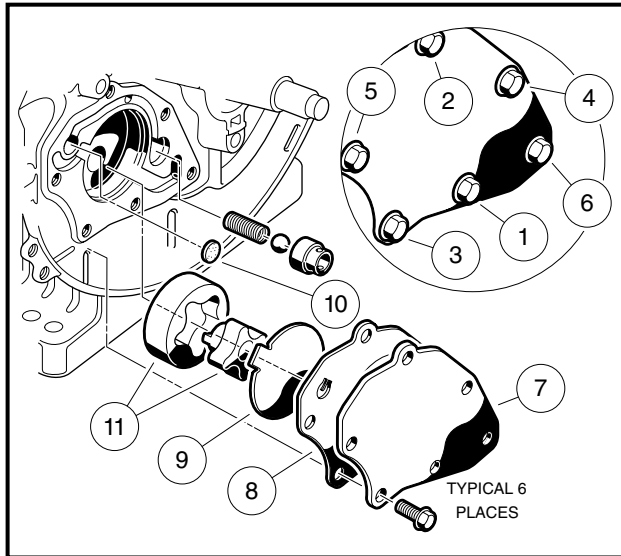

Figure 13-66 Oil Pump Removal
1. Remove the six screws (1 - 6) and remove the oil pump cover (7) (**Figure 13-66, Page 13-33**).
2. Peel off the oil pump cover gasket (8).
3. Remove the pump gear cover plate (9) and filter screen (10).
3. Remove inner and outer rotors (11) (**Figure 13-66, Page 13-33**).
3. Install six bolts (1-6) and finger tighten. Then tighten to 7 ft-lb (9.5 N·m) in the sequence shown (**Figure 13-66, Page 13-33**). After tightening bolts, check the torque of the first bolt.